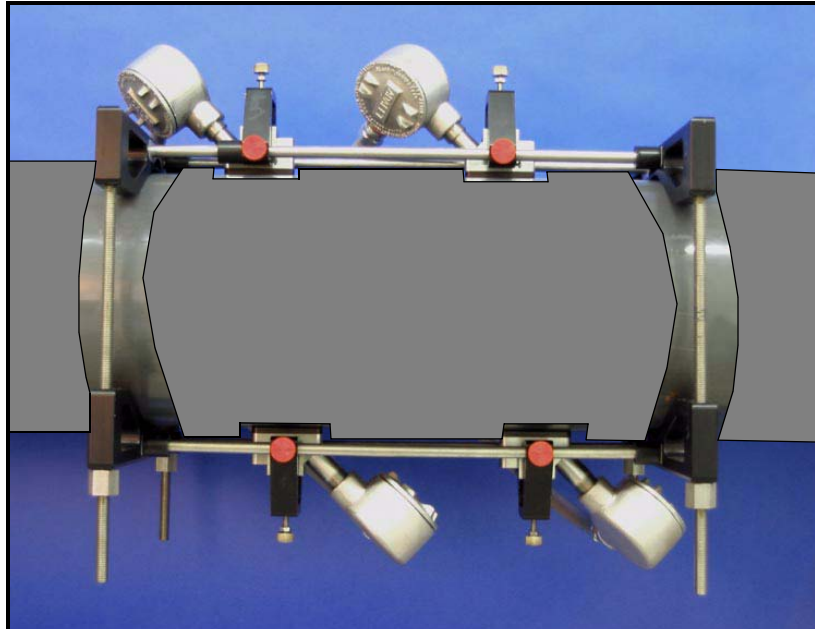

Figure 2-9: DMP-3 Damping Material with Fixture Installed
5. Spread the DMP-3 material so that it covers the whole area under the fixture, and 4 to 6 inches on both sides of the fixture, to a thickness of about 0.25 in. (6.4 mm), as shown in Figure 2-8 and Figure 2-9 on page 2-20.
7. Remove the DMP-3 material from the transducer locations (see Figure 2-9 below) and proceed to *Installing Transducers* on page 2-23.